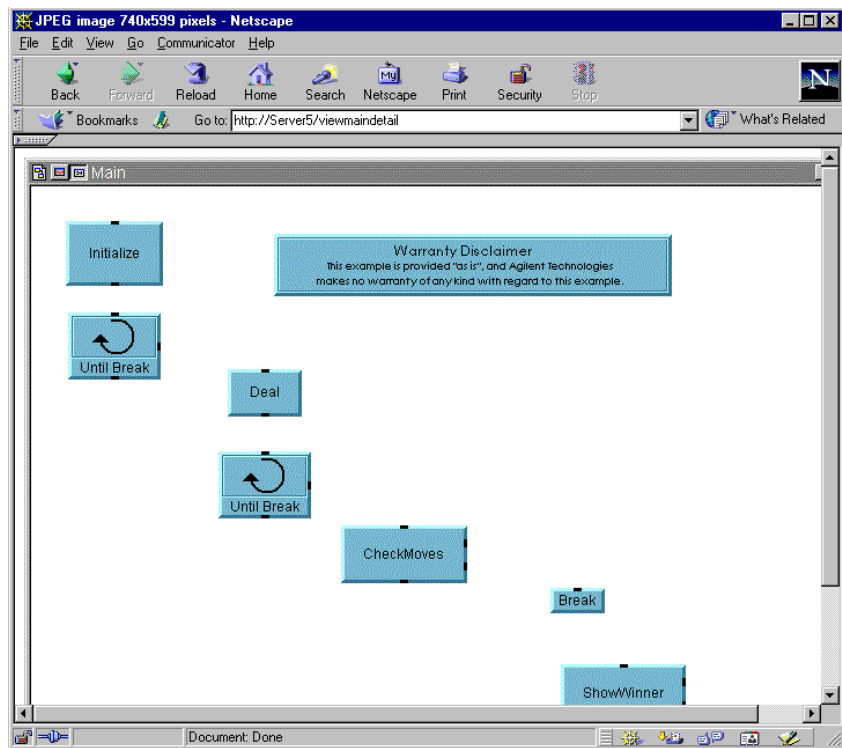

Figure 12-8. Viewing the Main Solitaire.vee Program in the Browser
4. The remote user decides to view the entire VEE program first. In the VEE Web Server Home Page, he or she clicks `Main Detail` ⇒ `View`. The browser displays the view shown in Figure 12-8.
Figure 12-8 displays the Main program in VEE.